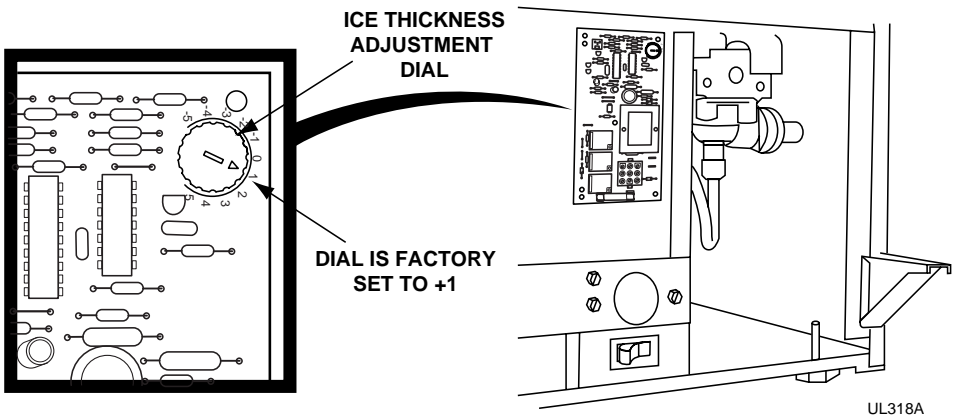

Figure 29
3. Locate the ice thickness adjustment dial on the control board (see Figure 29).